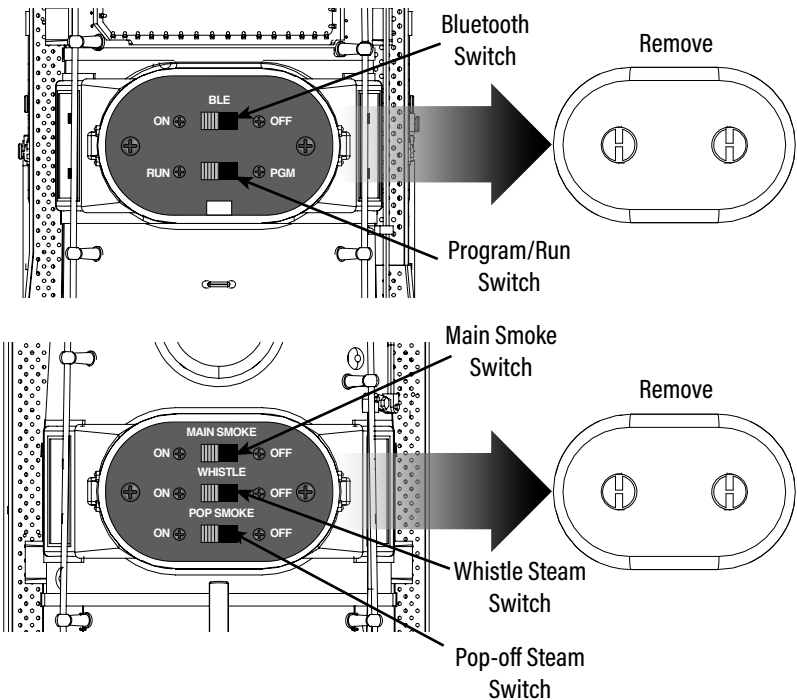

Figure 4. Locomotive switch locations, under both sand domes
The functions of your engine's switches are outlined below. Refer to Figure 4 for the location of the switches. *The instructions below are specific to this particular locomotive; note that available features (and switches) may differ from other locomotives and sets.*
Refer below as you add the smoke fluid. If you prefer to operate your Vision Steam Locomotive without smoke, locate the smoke unit switches under the sand domes on top of the boiler and slide them to the OFF position. Refer to Figure 4 on page 9 for the locations of the switches.
1. Slide the program run switch on your locomotive to the PGM position. See Figure 4 on page 9.
The Pop-off steam effect only works when the engine's smoke units are turned on. Make sure the switch is in the ON position (see figure 4 on page 9) and then turn the smoke on using a CAB controller. If the smoke switch is turned off, both the smoke effect and the sound effect will be disabled. If the switch is in the ON position, but the smoke is turned off using a CAB controller, the smoke effect will be off, but the sound effect will still play.
To disable the Pop-off Steam feature, move the switch to the OFF position. See figure 4 on page 9 for switch location.